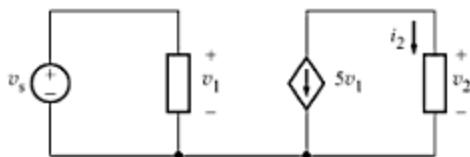

Fig. A-56
- A-7. For the circuit shown in Fig. A-56, if $v_2 = 1000i_2$ and $i_2 = 5 \text{ mA}$, determine v_S . [Ans. -1 mV]